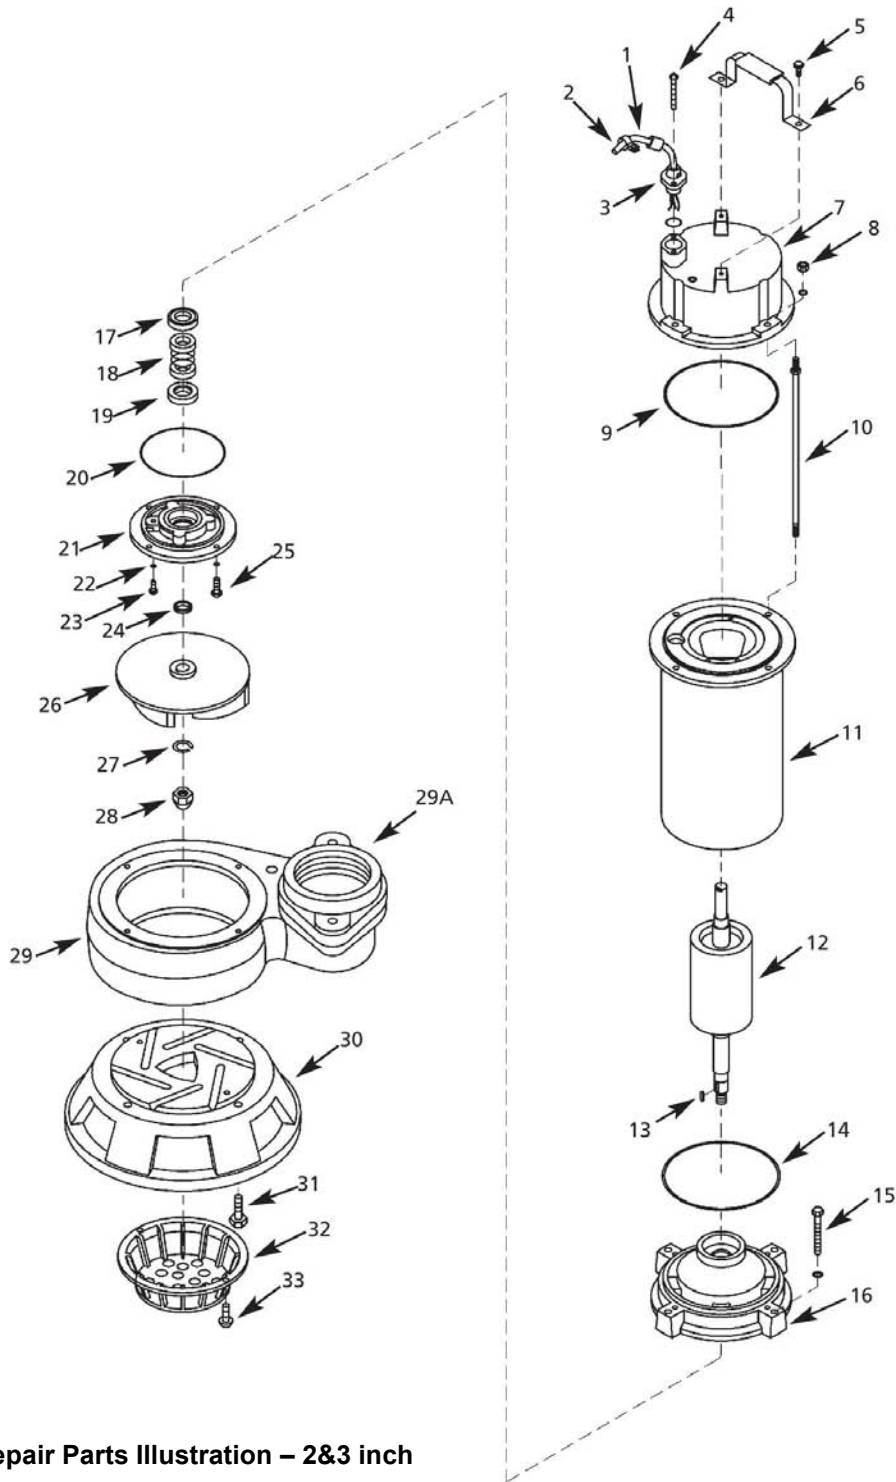

Figure 2 – Repair Parts Illustration – 2&3 inch
Refer to Figure 2
- NOTE:** To prevent motor shaft from turning, wedge a screwdriver between impeller vane and impeller fastener (see Figure 2).